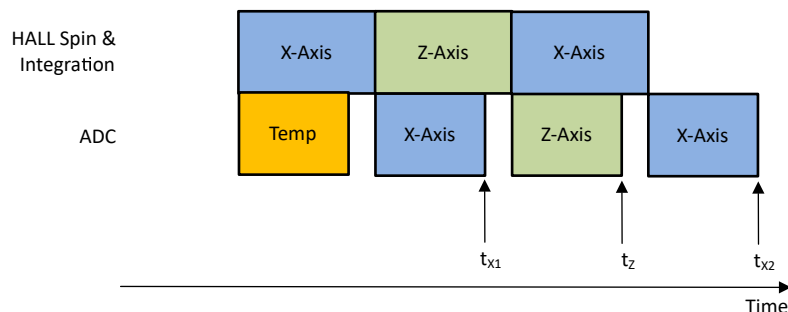

図 8-3. XZX Magnetic Field Conversion
In absolute angle measurement, application sensor data from multiple axes are required to calculate an accurate angle. The magnetic field data collected at different times through the same signal chain introduces error in angle calculation. The TMAG5173-Q1 offers pseudo-simultaneous sampling data collection modes to eliminate this error. 図 8-3 shows an example where MAG_CH_EN is set at 1011b to collect XZX data. 式 18 shows that the time stamps for the X and Z sensor data are the same.
- t_{x1} , t_z , t_{x2} are time stamps for X, Z, X sensor data completion as defined in 図 8-3.